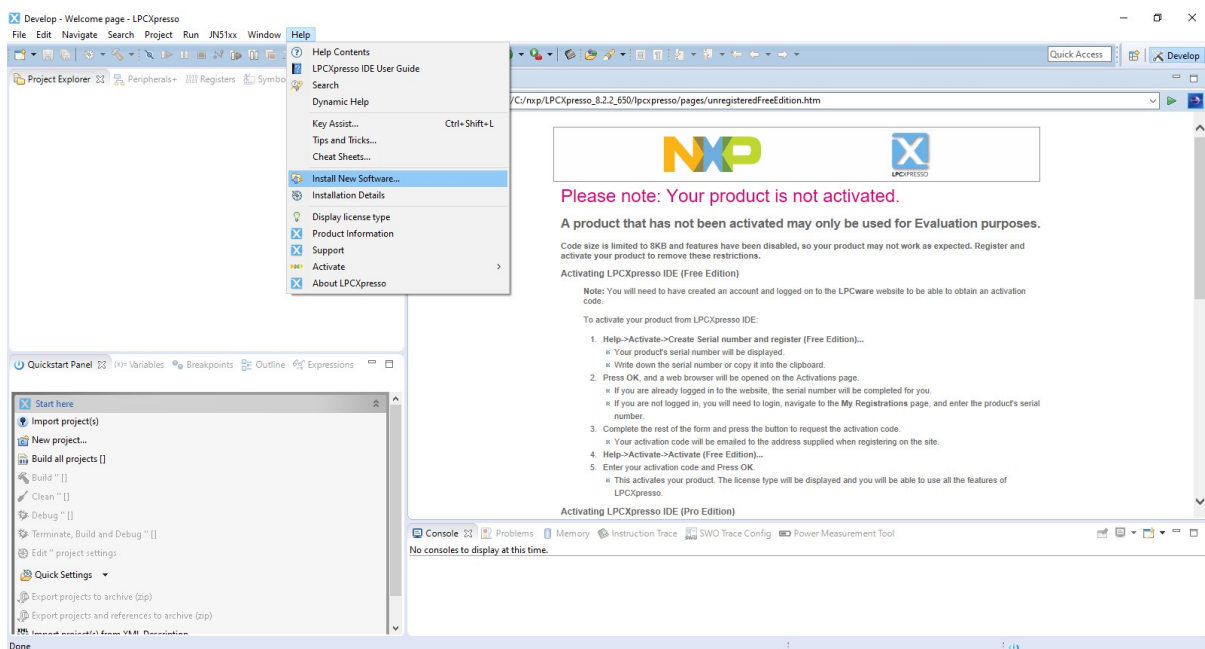

Figure 2-8: Install New Software
3. Open the LPCXpresso IDE and head towards the help menu and select “Install New Software”. This is shown in figure 2-8.